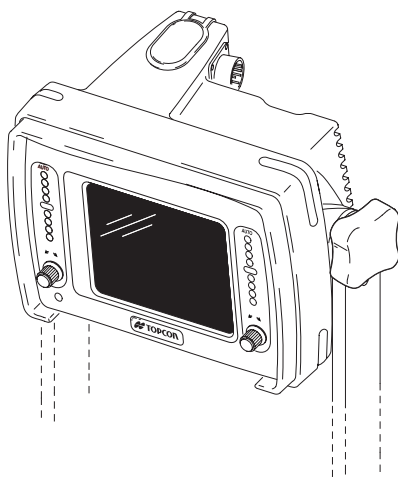

Figure 8-13. Attach Control Box
1. Using the hand knob, attach the control box to the bracket (Figure 8-13).